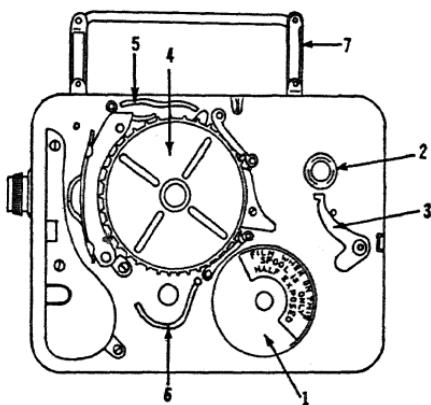

FIG. 40. OPERATION OF MOVIE CAMERA
Film.—Figure 40 shows a cross section of a movie camera. The film comes from the supply spool on the spindle (2), passes over